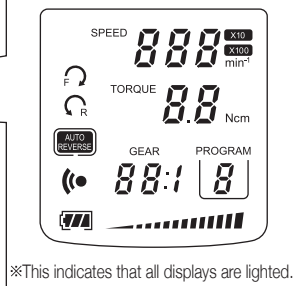

Fig. 2
- ① Control Unit
- ② Operation Panel
- \* See Fig. 2 "Operation Panel and LCD Panel."
- ③ LCD Panel
- See Fig. 2 "Operation Panel and LCD Panel."
- ④ Power Cord Connector
- ⑤ Foot Control Connector
- ⑥ Motor Handpiece Connector
- ⑦ AC Adaptor
- ⑧ Motor Handpiece
- ⑨ Contra Angle Head (20:1)